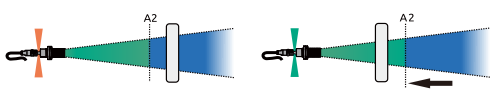

Figure 17 - Single trigger on approaching object
- The output signal switches when the object approach distance (S) is smaller than the adjustment distance (A2). The operating principle is shown in Figure 17. A user-wide setting must be implemented for operation: $A2 = S, A1 = \infty$